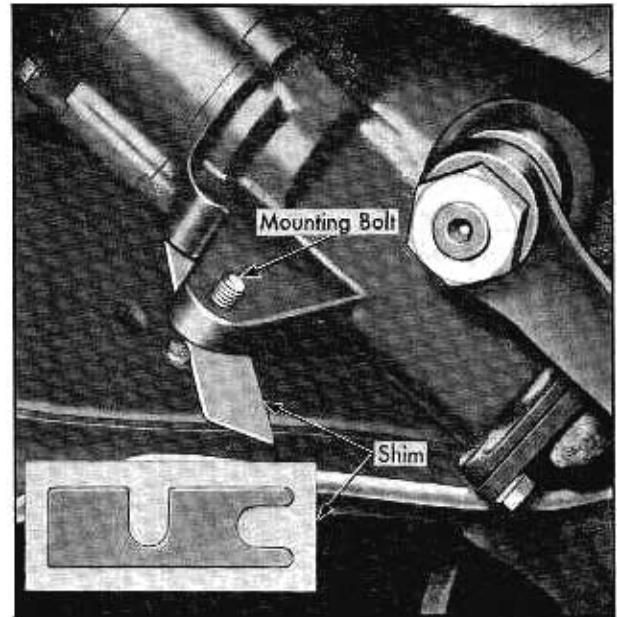

Fig. 7-6 Aligning Steering Gear
- c. Check space between gear housing and frame side bar, and install proper thickness shims to fill gap at two rear mounting screws, Fig. 7-6. If there is no space at the rear, loosen the front screw and tighten two rear mounting screws. Check space at front of gear, and add spacers to fill gap at this point. If shims are required in the gear housing alignment adjustment, noted above, the straight ahead position of the front wheels, in relation to the steering gear high spot position and toe-in, should be rechecked.